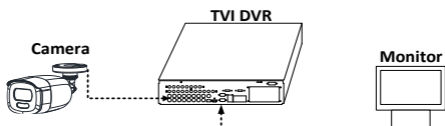

Figure 3-1 Connection
- Connect the camera with the TVI DVR, and the monitor, as shown in figure 3-1.